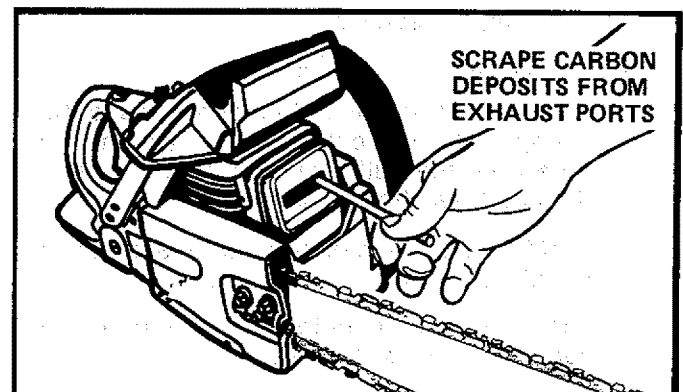

Figure 46
- d. Scrape the carbon deposits from the exhaust ports and surrounding exhaust chamber using a hardwood stick. Figure 46.